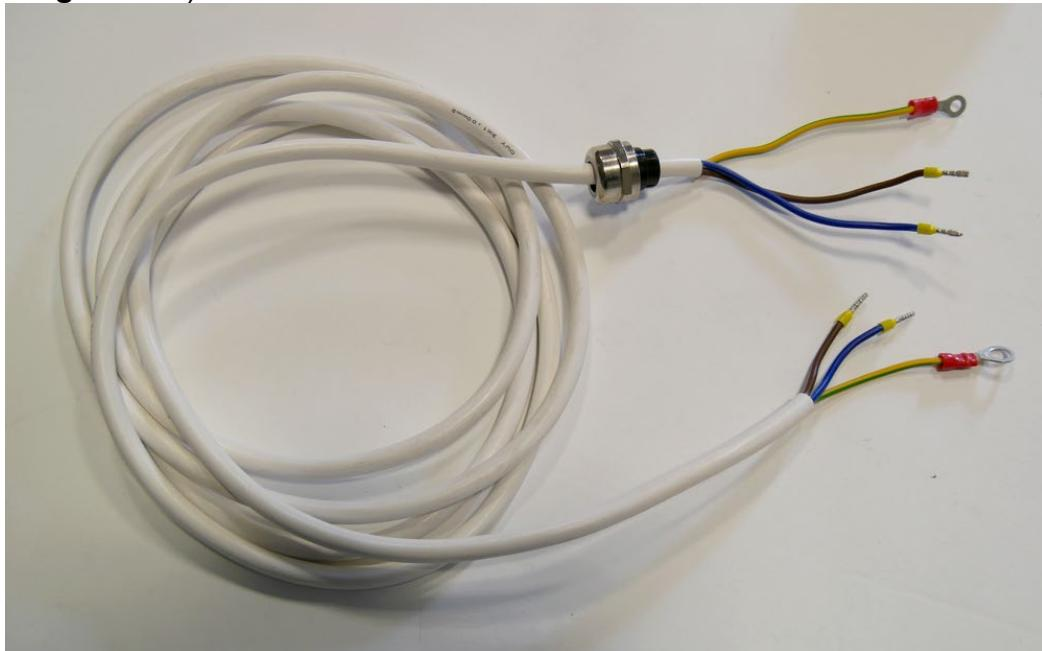
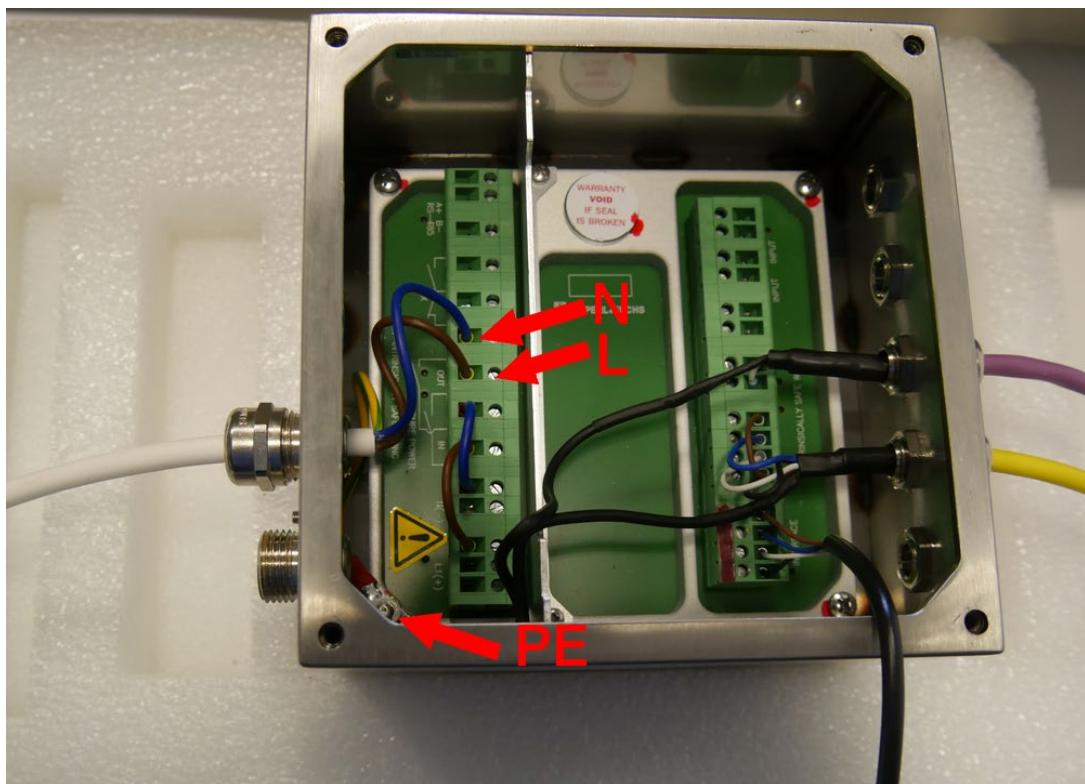
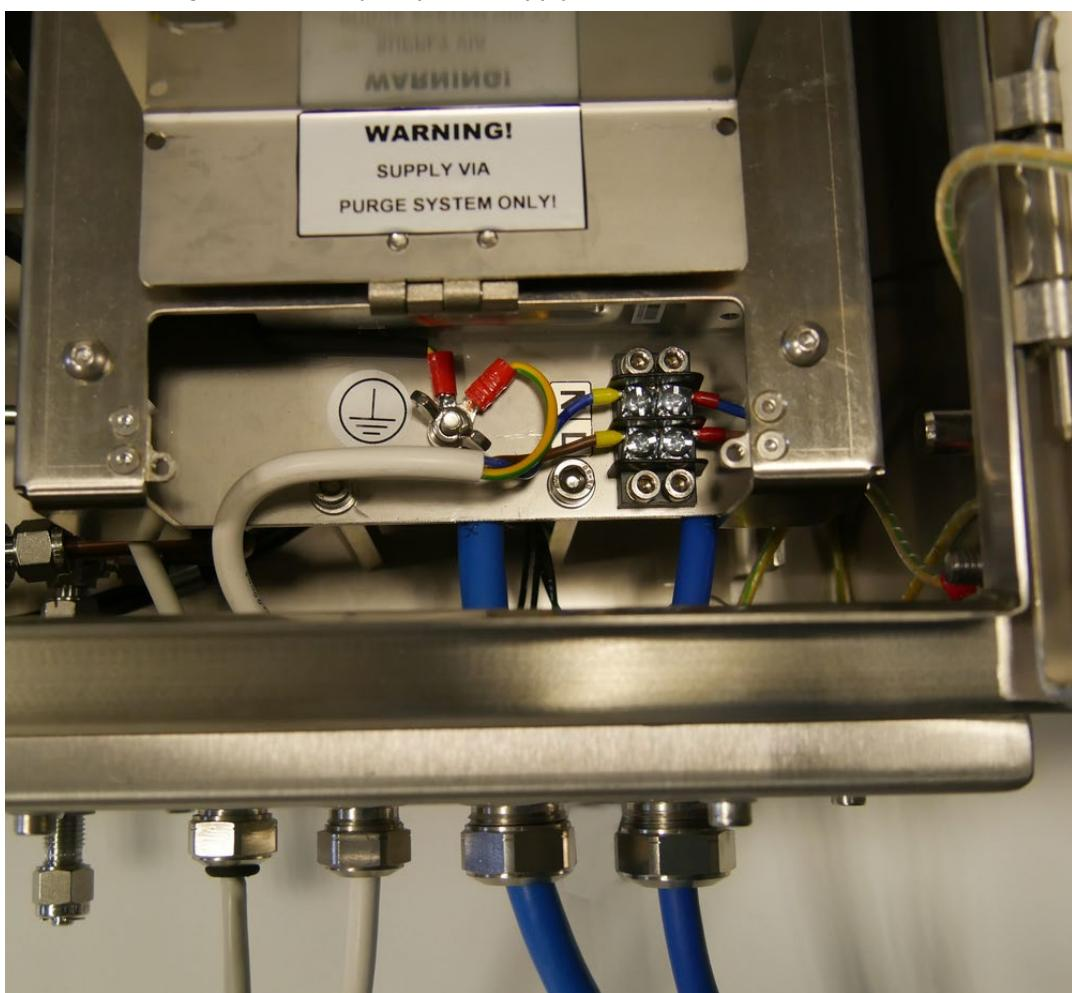

Figure 143. Analyzer supply cable.
Figure 144. Analyzer power supply connection – controller side.
Figure 145. Analyzer power supply connection – analyzer side.
3. Connect the 3x1mm² power cable (6) (Figure 143) between the purge controller (3) and the analyzer (1) - through the M16 gland (**Figure 144** and **Figure 145**).